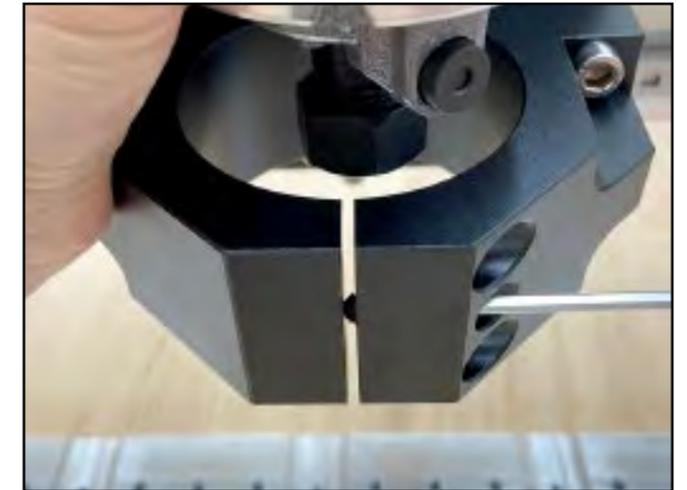

Figure 7-3
2. If the router doesn't quite fit, use a 3mm hex key and the M6 grub screw to gently pry open the mount. See **Fig. 7-3**.